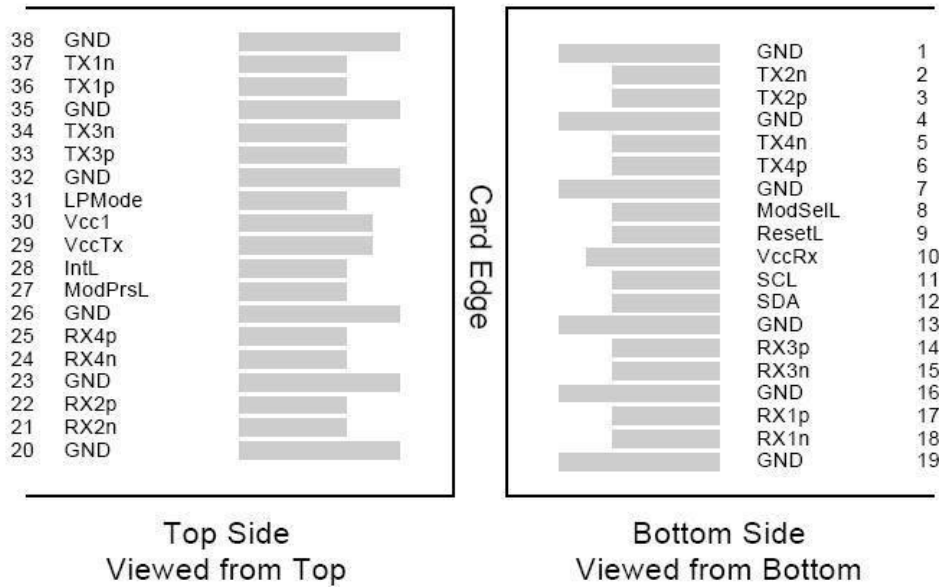

Figure 3. MSA compliant Connector
2. VccRx, Vcc1 and VccTx are the receiving and transmission power suppliers and shall be applied concurrently. Recommended host board power supply filtering is shown in Figure 3 below. Vcc Rx, Vcc1 and Vcc Tx may be internally connected within the module in any combination. The connector pins are each rated for a maximum current of 1000mA.